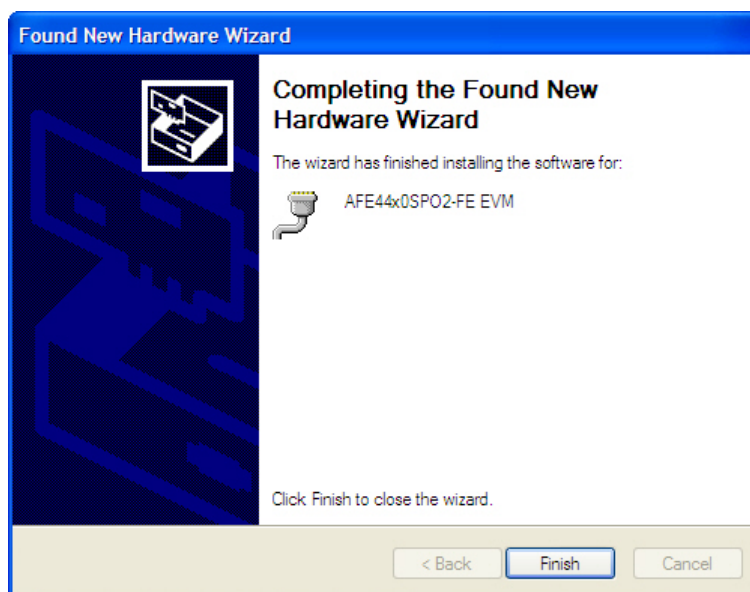

Figure 11. USB Driver Installation – Screen 4
5. Click the **Finish** button after the driver installation is complete (Figure 11).